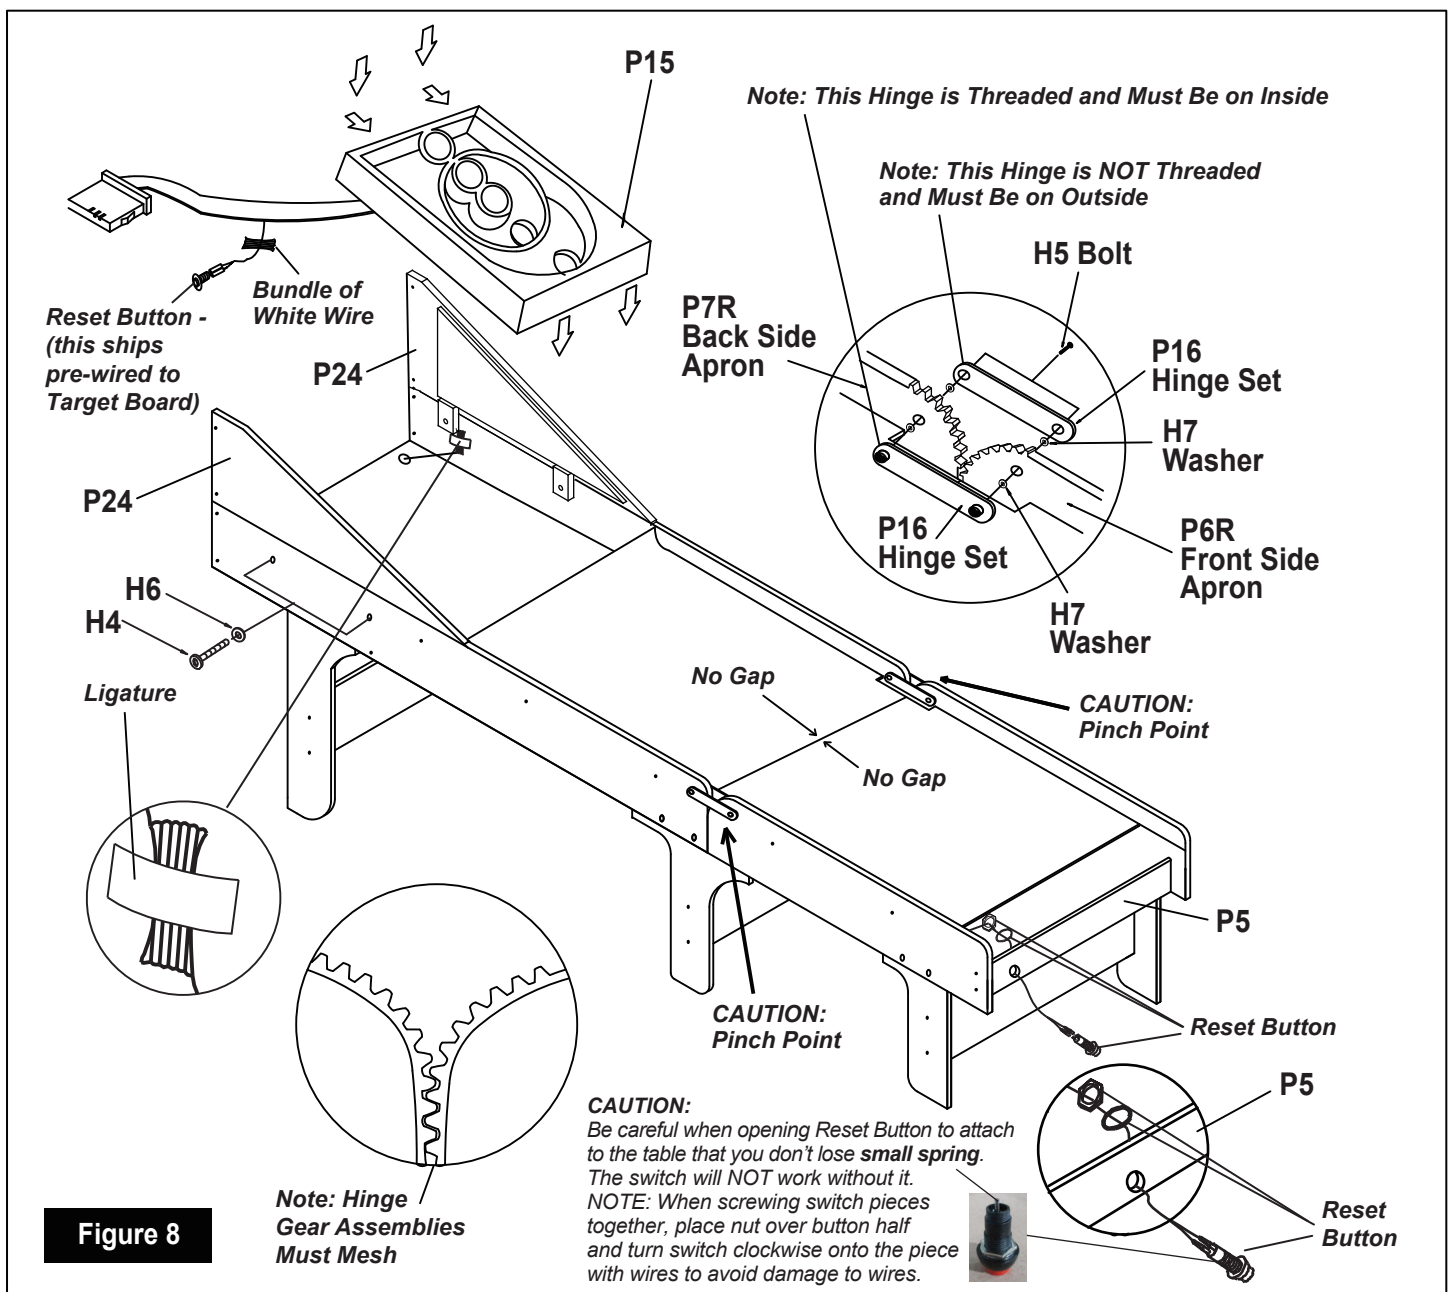

Figure 8
18. With the help of another adult, set both completed assemblies upright and position so gears face each other as shown in Figure 8. Using (2) HINGE SETS, P16, connect assemblies using BOLT, H5, and Washer, H7, as shown in Figure 8. The bolts should be snug, but NOT over tightened as this is a pivot area. *Note: Hinge gear assemblies must mesh together, per diagram, and there should be no gap between playfields. Also, only one hinge plate per set is threaded and must be installed on the inside of each playfield side.*
19. Attach TRIANGULAR PATCH, P24, on each side aprons using (2) BOLTS, H4, and (2) WASHERS, H6, on each patch, as shown in Figure 8.